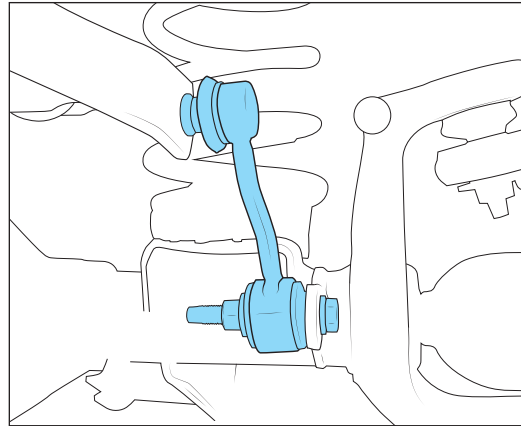

Figure 18
- Remove both sway bar links and hardware, save hardware. Note orientation, new links will be installed in the same way (Fig 18).